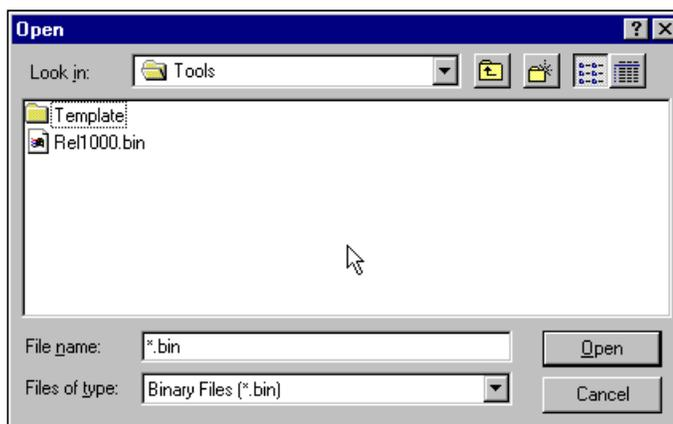

Figure 281. Open dialog box
2. Tab to the Select File button, and press **Enter** to display the Open window as shown in Figure 281.